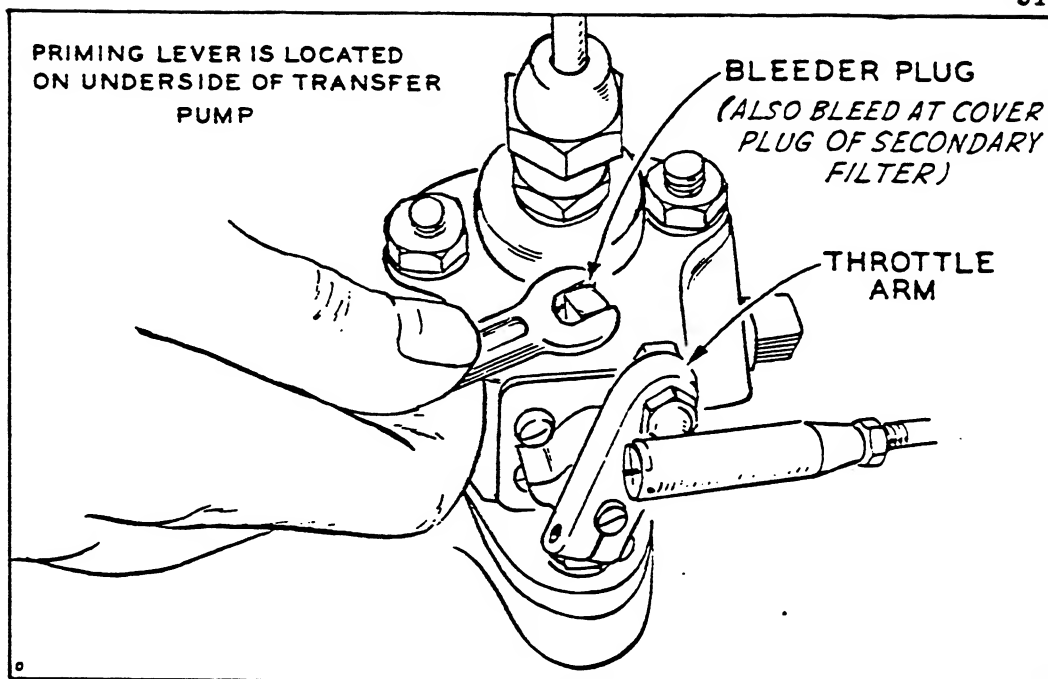

FIG. 16 - BLEEDING THE FUEL SYSTEM
- (3) The air cleaner (silencer) is the dry type. Before the initial start, especially under dirty operating conditions, squirt a limited amount of oil not heavier than SAE No. 10 on the pack of the air cleaner. Allow it to drain.
- (4) Open the air inlet and air outlet ventilators except as necessary to control the air flow for cold temperature operation.
- (5) See that the main line switch or circuit breaker is in the OFF position.
- (6) Place a drop of SAE No. 30 oil on the joints of the governor linkage.
- (7) Open the fuel shut-off valve at the fuel tank.
- (8) Loosen the injection pump bleeder plug. This plug is located just above the throttle arm. See Fig.16. Then work the primer lever on the fuel pump until fuel flows freely at the plug opening and there are no air or foreign gas bubbles in evidence. Either tighten the plug now, or leave it "cracked" during the first minutes of operation to allow the escape of a trickle of fuel as well as additional air and gasses. Another bleed plug is located at the top of the secondary fuel filter. Bleeding by this plug extracts any air-trapped in the secondary filter cover and should be done in conjunction with the regular method at the injection pump. Tighten this plug before completing the bleeding at the injection pump.